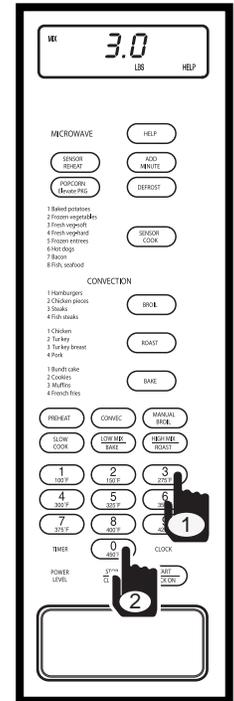

Figure 3-101.
3. Enter weight of the food. Press the number 2 key and number 5 key, “PRESS - START” will flash on display (See Figure 3-101).